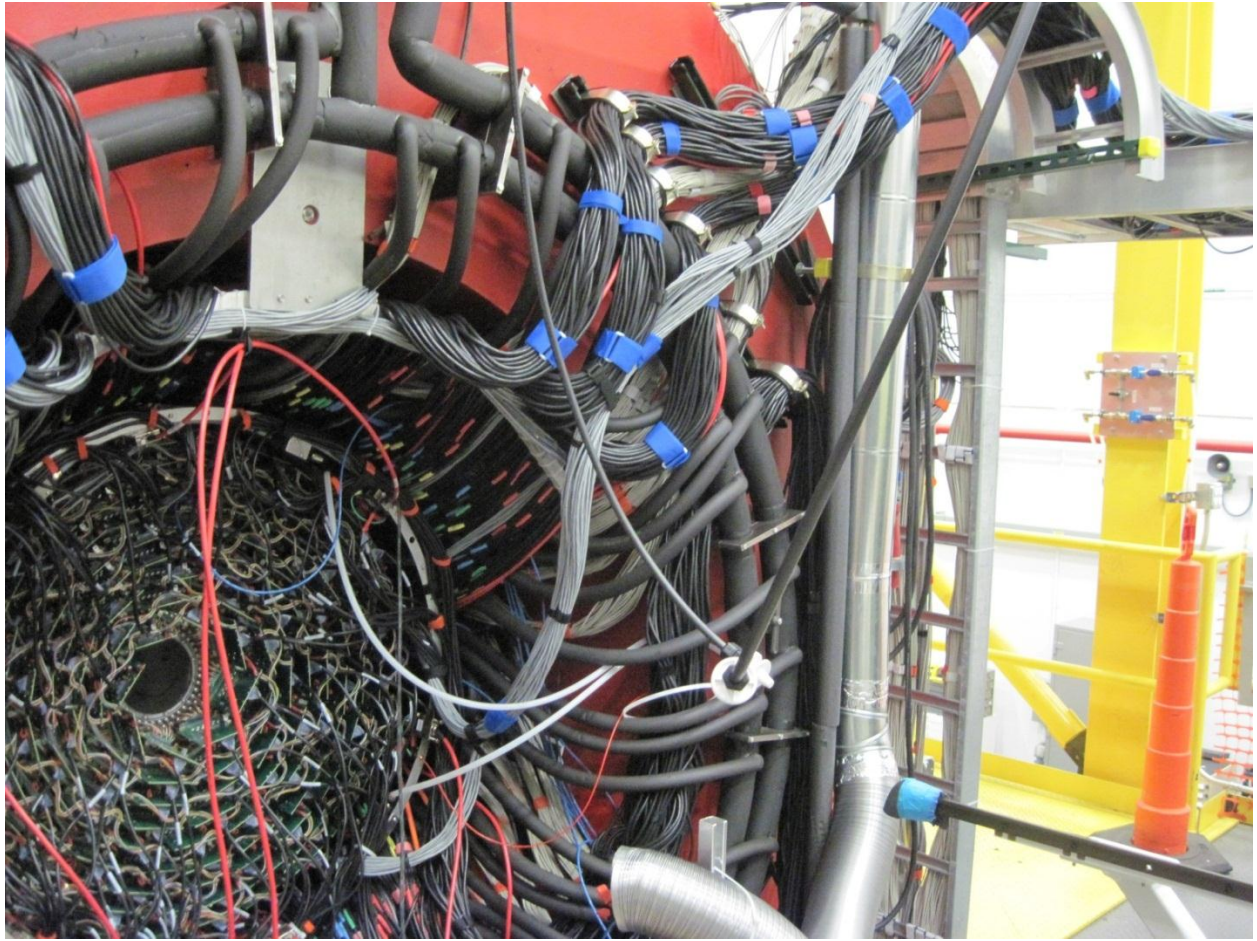

Fig 3
8. Install and turn on cooling air system as shown in figures 3 and 4.